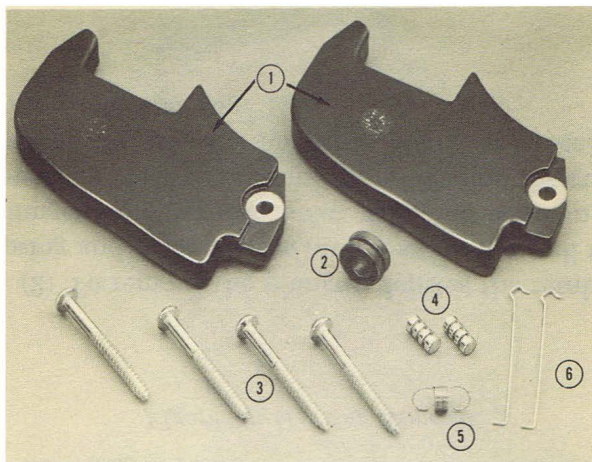

Figure 21. Conversion Kit, Wall Mounting.
b. Desk to Wall Conversion. Desk to wall conversion of the 1500 Series Telephone is accomplished in the following manner, using the No. 211445-000 conversion kit (fig. 21).
LEGEND FOR FIGURE 21